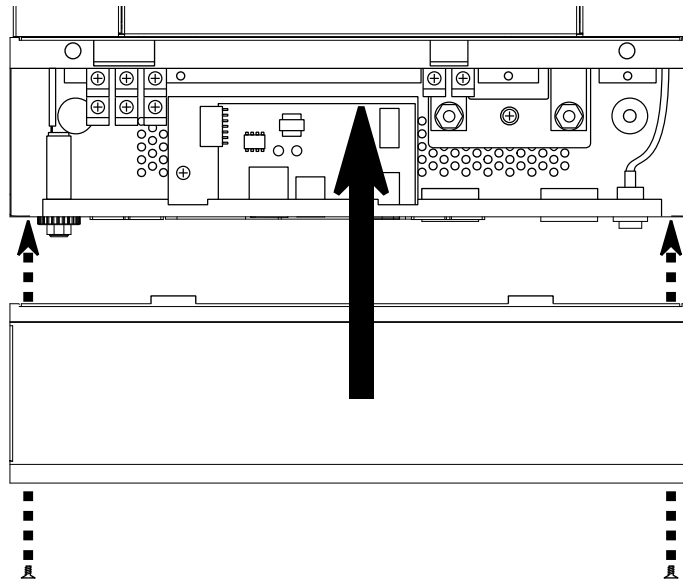

Figure 8: Closing the bottom cover
13. Re-assemble the bottom cover as in Fig. 8, the reverse of step 1. You have now completed the installation of the parallel board into the Solarix PLI 5000-48.